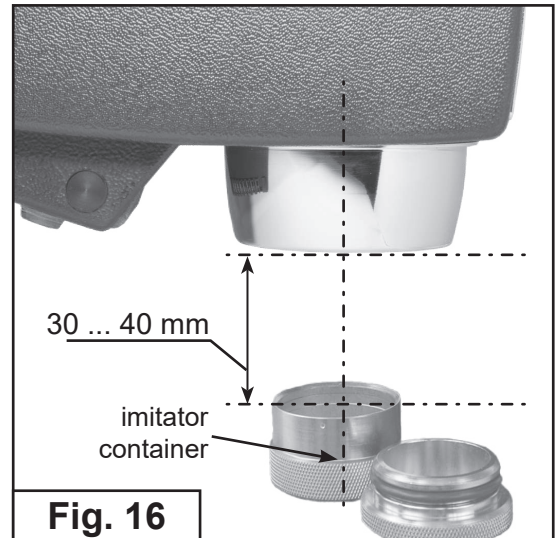

Fig. 16
2. Open an imitator's container (Fig. 16).
4. Draw the suction port of the Main Unit near opened imitator within 30...40 mm distance (Fig. 16).